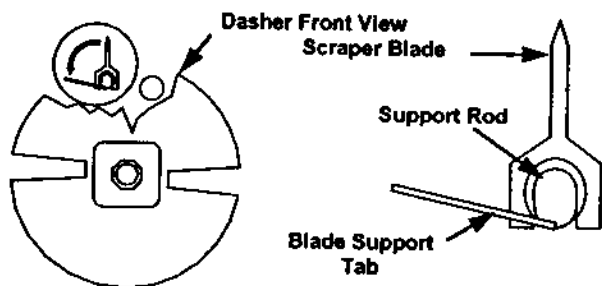

**Fig. 25**
- b. Lubricate the two areas of the stator rod (Fig. 24a) and slide the stator rod into the dasher (Fig. 25). Make certain that the end of the stator rod is inserted into the hole at the rear of the dasher.
- c. Assemble and install the rear seal with the rubber portion toward the rear of the freezing cylinder as indicated in Fig. 25.